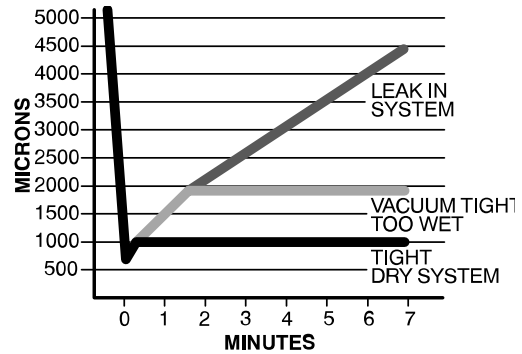

Fig. 17 —Deep Vacuum Graph
The deep vacuum method requires a vacuum pump capable of pulling a vacuum of 500 microns and a vacuum gauge capable of accurately measuring this vacuum depth. The deep vacuum method is the best way to assure a system is free of air and liquid water (see Fig. 17).
The triple evacuation method should only be used when the vacuum pump is only capable of pumping down to 28 in. of mercury vacuum and the system does not contain any liquid water. Refer to Fig. 17 and proceed as follows:
5. Repeat this procedure as indicated in Fig. 17. The system will then be free of any contaminants and water vapor.